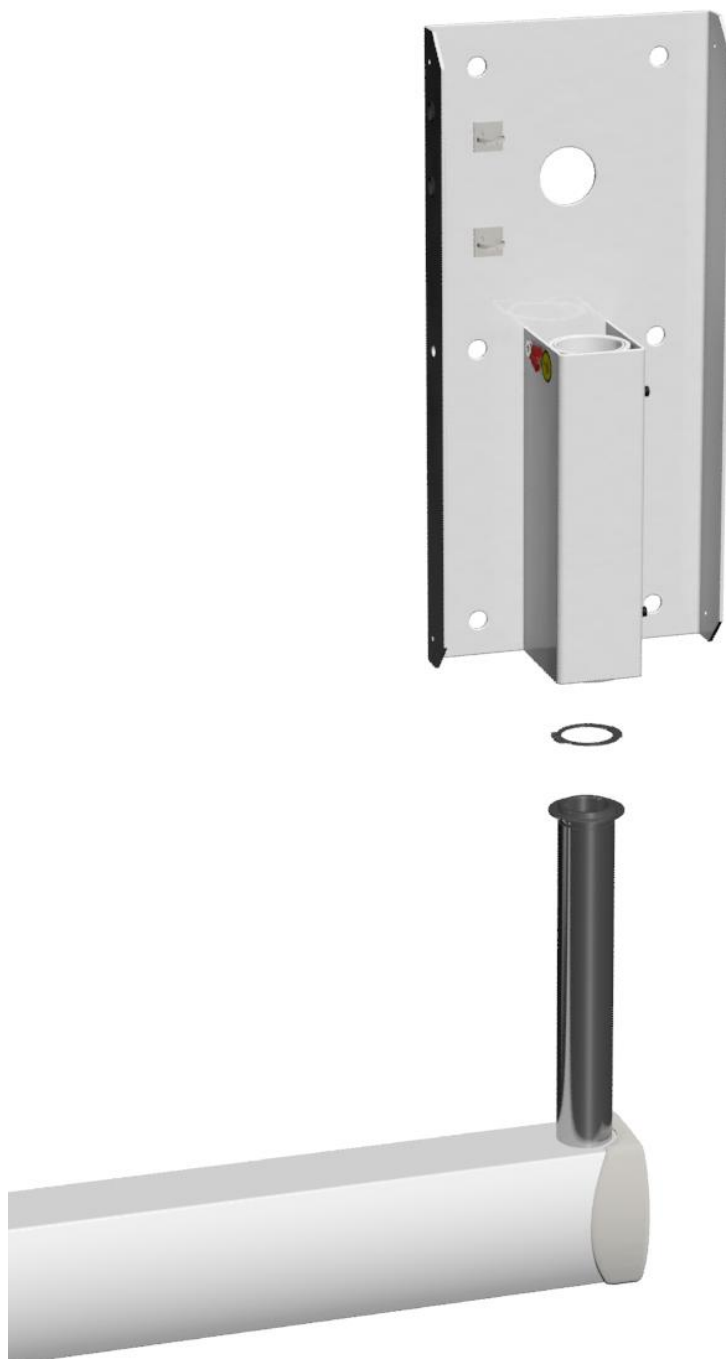

fig. 3
- ✓ Extract the SEGER from the extension **(B)**, and enter it in the wall plate (A), as shown in fig. 3